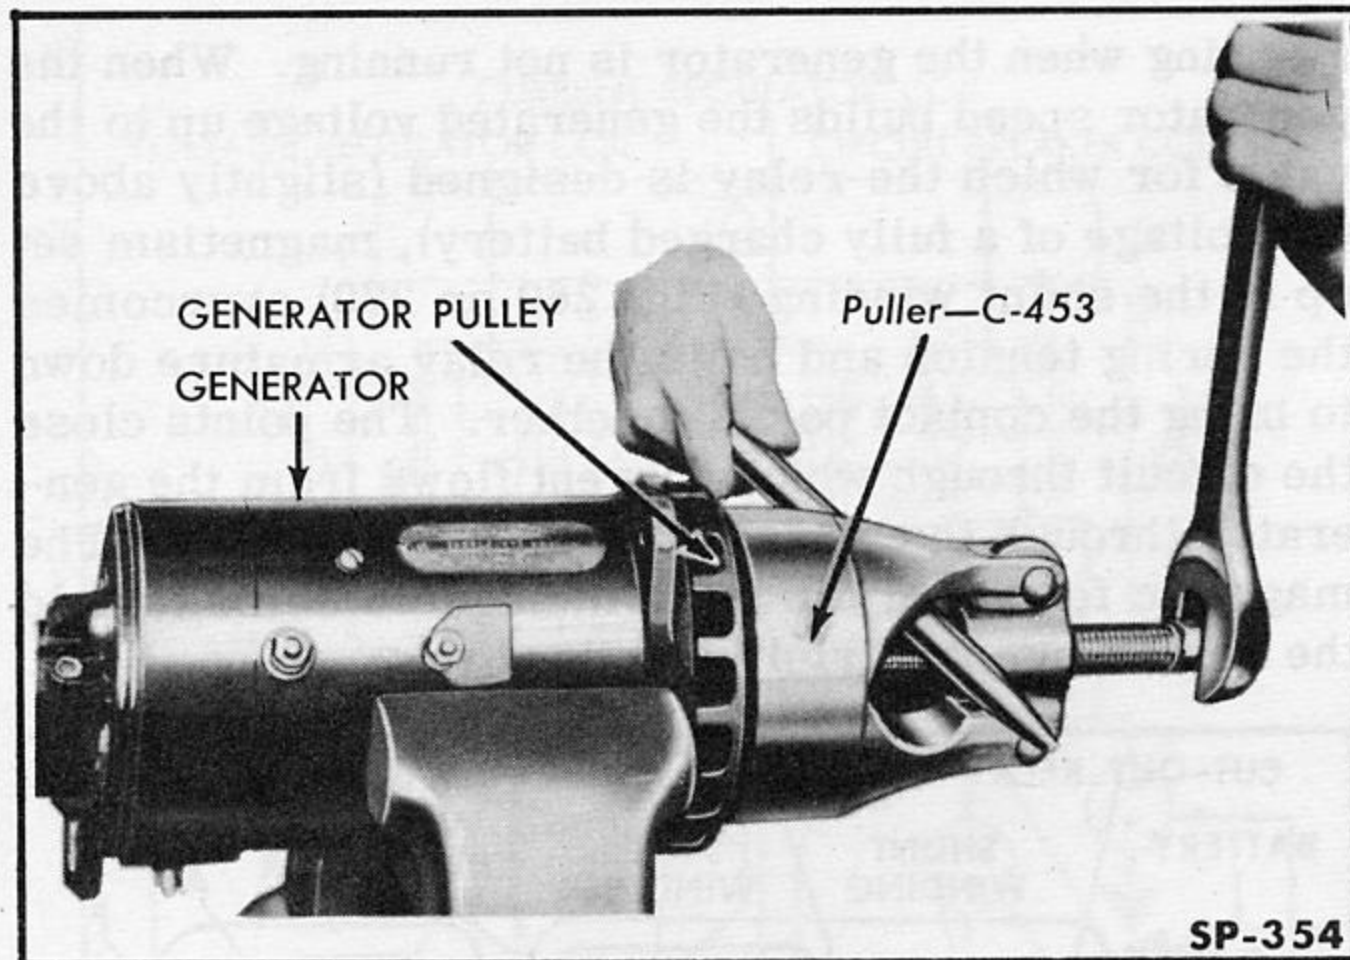

Fig. 265—Removing Generator Drive Pulley
1. Remove drive pulley nut and remove pulley with Generator Pulley Puller C-453, as illustrated in Fig. 265.